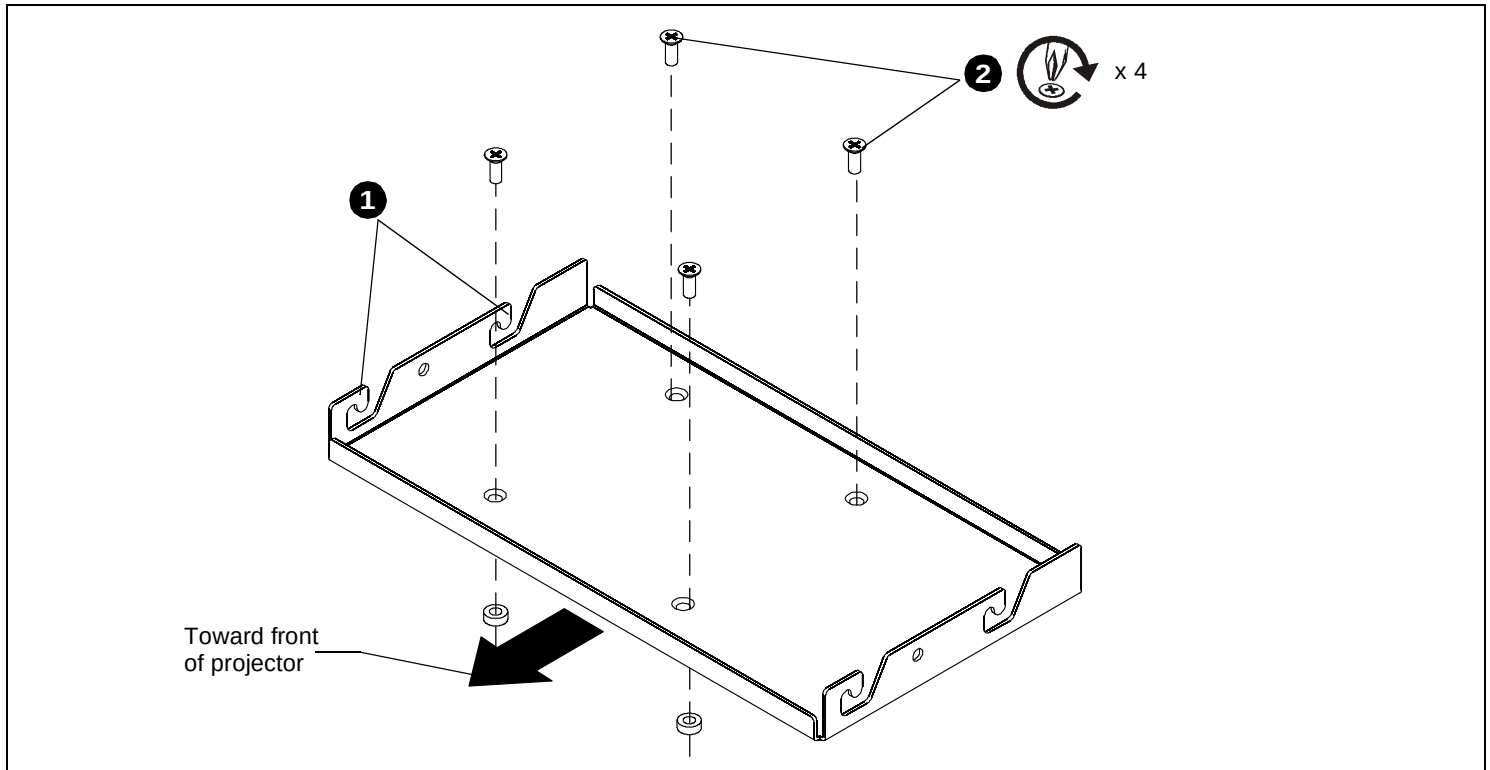

Figure 1:
2. Lower custom HB bracket onto spacers on top of projector. Ensure that the side hooks open towards back of the projector. (See Figure 1)
3. Attach HB bracket to projector using four M6 x 16mm Phillips flat head screws through nylon spacers. (See Figure 1)